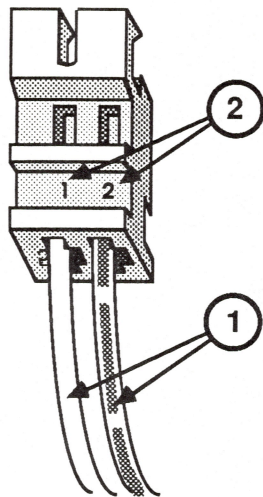

FIGURE 5
3. The LED leads are color-coded (Figure 5, #1). Note which color is in which numbered side (Figure 5, #2).